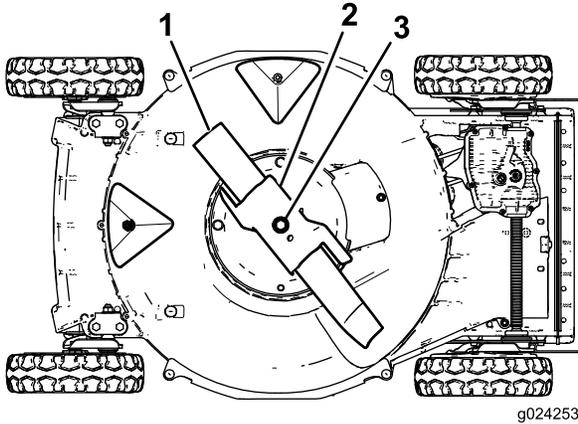

Figure 20
4. Tip the machine onto its **right** side (air cleaner up) as shown in Figure 20.